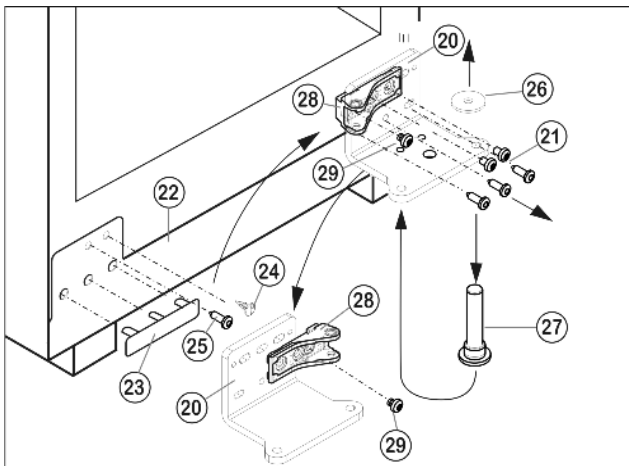

Fig. 32
- ▶ Unscrew bearing bracket Fig. 32 (20) together with bearing pin Fig. 32 (27) (3 x Torx 25) Fig. 32 (21). When doing so, hold panel Fig. 32 (22) steady so that it does not drop.
- ▶ Carefully lift off the cover on the handle side Fig. 32 (23) and the plug Fig. 32 (24) and move them to the opposite side.
- ▶ Unscrew screw Fig. 32 (25) and move it to the opposite side. When doing so, hold panel steady so that it does not drop.
- ▶ Unscrew bearing part Fig. 32 (28), turn it 180° and tighten Fig. 32 (29).
- ▶ Remove bearing disc Fig. 32 (26) from bearing pin Fig. 32 (27).
- ▶ Unscrew bearing pin Fig. 32 (27), move to other side and place bearing disc Fig. 32 (26) on.
- ▶ Using a cordless screwdriver if necessary, attach the bearing bracket Fig. 32 (20) to the new hinge side. First fit the lower center screw, then the other screws.
- ▶ Ensure that the bearing disc Fig. 32 (26) is on the bearing pin below Fig. 32 (27).
- ▶ Position the door from above onto the bearing pins below Fig. 32 (27).
- ▶ Unscrew center screw on lower part of bearing bracket *Fig. 32 (20)*.
- ▶ Align the doors flush with the appliance housing using the two oblong holes in the lower bearing bracket *Fig. 32 (20)* as a guide if needed.